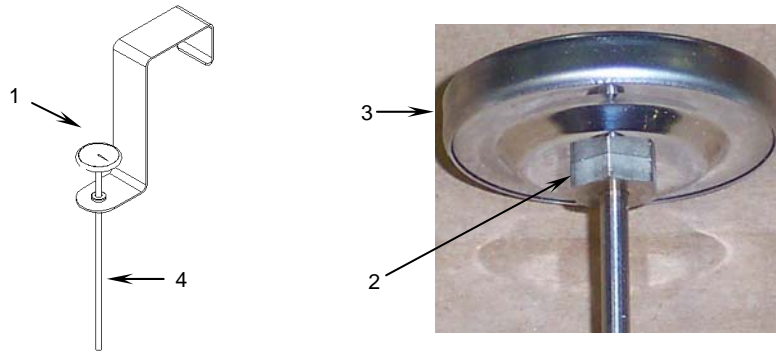

Figure 1. Thermometer Assembly.
2. Remove thermometer assembly (**Figure 1, Item 1**) from sink and allow the assembly to cool to ambient temperature.
5. Insert the thermometer stem (**Figure 1, Item 4**) at least 2 inches into the ice and wait for the temperature reading on the thermometer to stabilize.
6. If the thermometer does not read 32°F, secure the hex nut (**Figure 1, Item 2**) under the thermometer head with a wrench and rotate the head (**Figure 1, Item 3**) so that the thermometer reads 32°F.